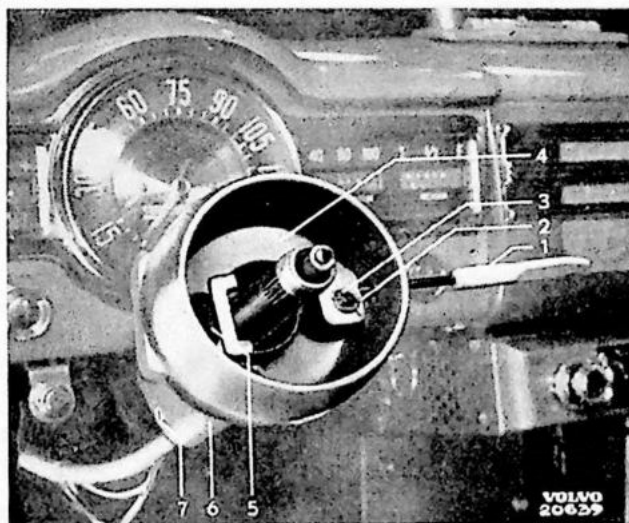

Fig 27.
2. Screw out the operating arm (1, fig. 27) from the lever (4). Remove the cotter pin (2) and washer (3) and lift the lever and rubber stop (5) out of the housing (6).
5. Loosen the retainer screw (7, fig. 27) right out and slide the housing off the steering column. Remove switch and cable.